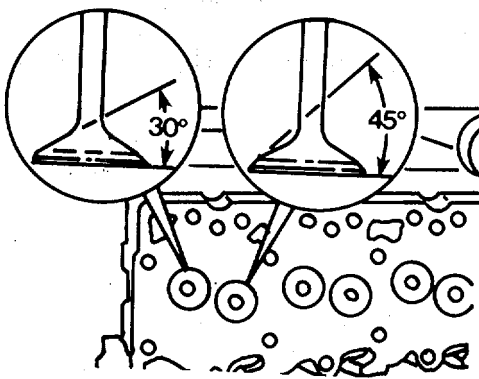

FIGURE 4-12. Checking Seat Angle.
- b. Check the seat angle (FIGURE 4-12). Intake: 30 degrees, Exhaust: 45 degrees.